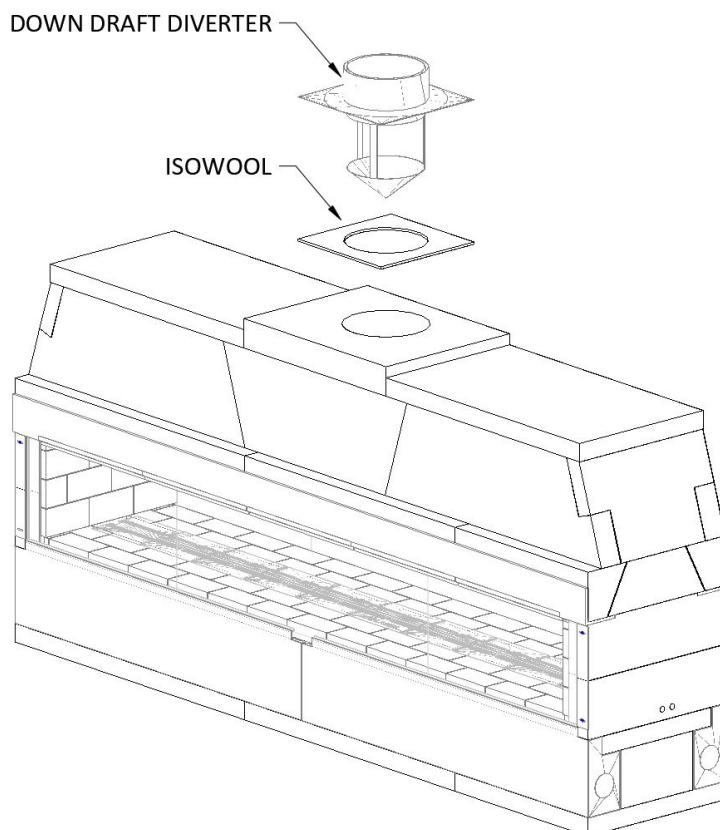

FIGURE 23
- 2) Center the Isowool blanket over Isokern Top Plate's outlet and trace the outlet's outline with a pen or marker. Cut a hole in the blanket along this outline to match the hole in the Isokern top plate. Center the cut Isowool blanket over the Isokern Top Plate flue opening, then center anchor plate over the Isowool blanket (**Figure 23**).
- 3) Secure the Anchor Plate with four (4) masonry anchors.